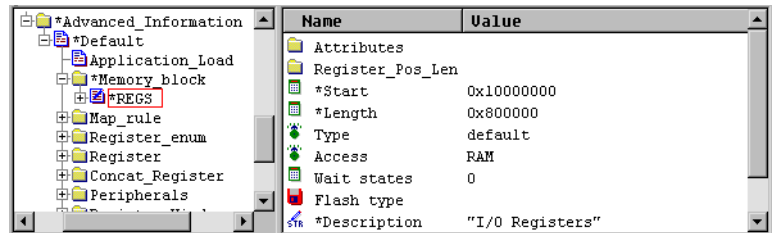

Figure 13-23 Configuring REGS
12. Set the value of Description to I/O Registers, (shown in Figure 13-23).